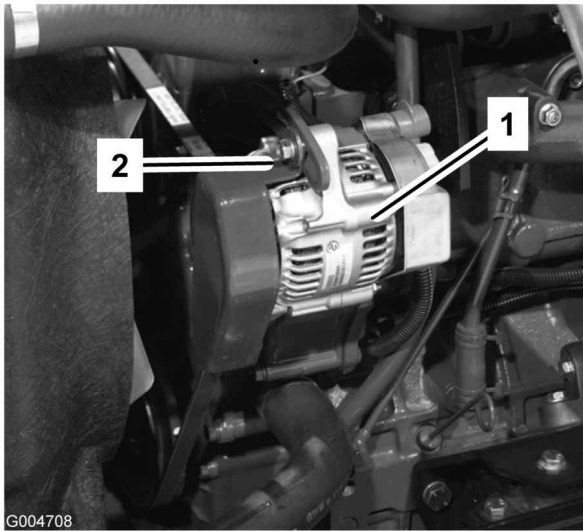

Figure 63
Check the condition and tension of the belts (Figure 63) after every 100 operating hours.
2. If the deflection is not 3/8 inch (10 mm), loosen the alternator mounting bolts (Figure 63). Increase or decrease the alternator belt tension and tighten the bolts. Check the deflection of the belt again to ensure that the tension is correct.